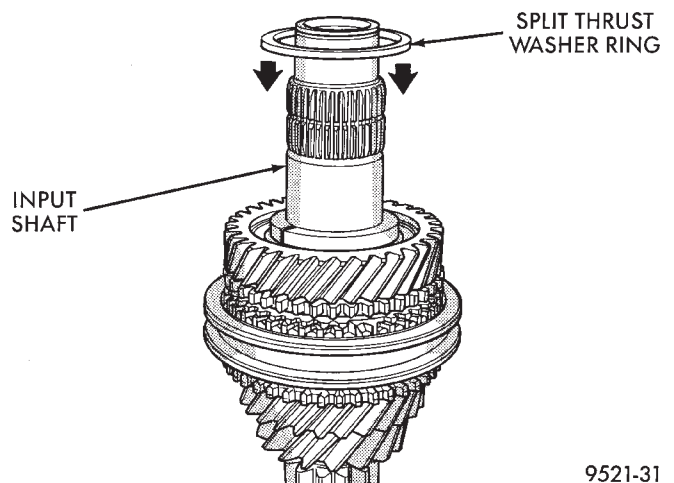

Fig. 102 Retaining Ring Installation
- (9) Install split thrust washer retaining ring (Fig. 102).